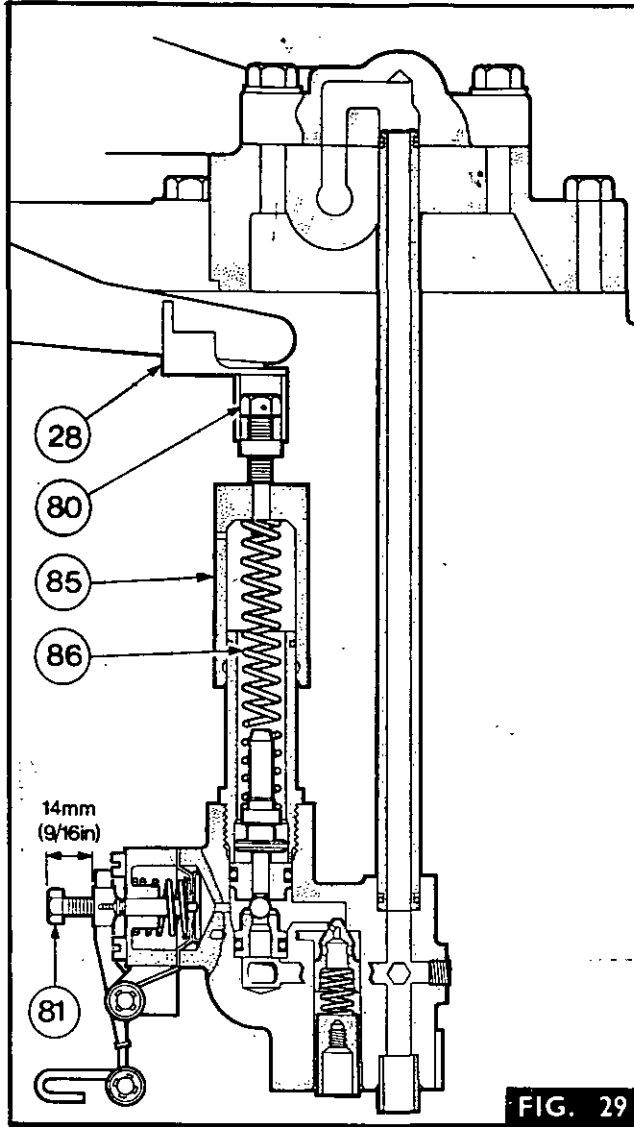

FIG. 29
1. Fig. 29. Set the Pressure Control adjuster (28) so that the adjusting screw (30) is in the middle of its travel.
2. Set the diaphragm adjusting setscrew (81) to an initial setting of 14 mm ( $\frac{1}{2}$  in), taken between the lever and the outside head of the setscrew, as shown.
Figs. 29 and 30 to 34
6. Using MF 357 adjust the Pressure Control adjusting screw (80, Fig. 29) to give:—
5. Adjust the diaphragm setscrew (81, Fig. 29) until a flow of 5 litre/40s (1 Imp. gal/35s) is obtained.
4. Fig. 29. Screw the diaphragm setscrew (81) in until the needle on the gauge begins to fluctuate.
7A—03—38**Fig. 29 and 35****Removal***Tractors not fitted with a Multi-Power/Auxiliary Pump*
2. Fig. 29. Remove the Pressure Control adjuster (28), tube (85) and spring (86).
7. Fig. 29. Refit the Pressure Control spring (86), tube (85) and adjuster (28).
9. Fig. 29. Refit the Pressure Control spring (86), tube (85) and adjuster (28).